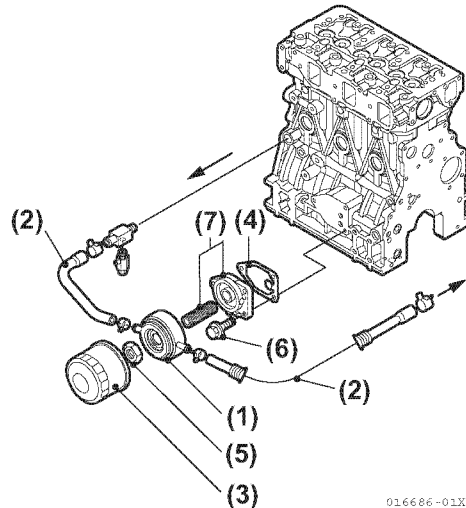

Figure 5-171
44. Install the filter bracket and gasket on the cylinder block (Figure 5-171).
45. Install the lubricating oil cooler to the filter bracket. Tighten the lubricating oil cooler nut (Figure 5-171).
46. Install the freshwater pipes; (cylinder block, lubricating oil cooler, lubricating oil cooler, freshwater pump (Figure 5-171).
47. Install the lubricating oil filter with the filter case remover tool (Figure 5-171).